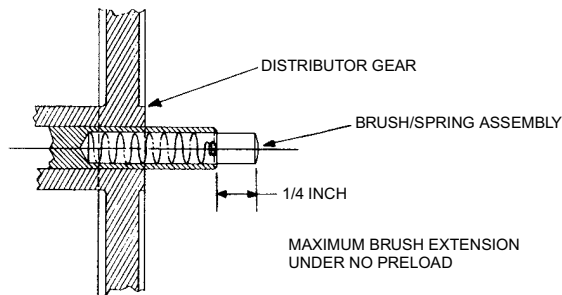

Figure 7.12
- 2. Gently press the carbon brush and spring assembly into the shaft until the spring seats on the bottom of the shaft. The top of the carbon brush should protrude from the top of the shaft approximately 1/4 inch. (See Figure 7.12.)